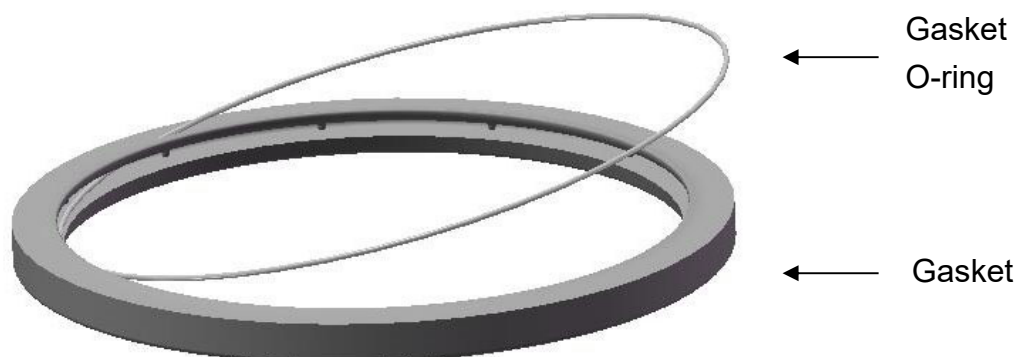

Figure 56
1. Remove the old gasket from the door, and then puff off the gasket o-ring from the gasket. Install the gasket o-ring to the new gasket as Figure 56.